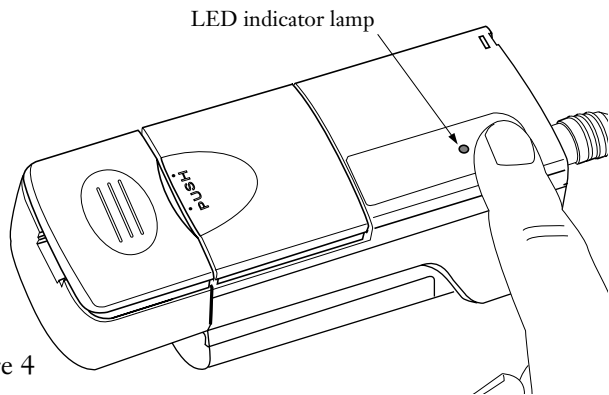

Figure 4
3.5 The automatic "Save" mode will cut the power consumption and lower the stripper's temperature between stripping operations, as indicated by the LED on the top of the stripper (see Figure 4) changing from green to red.
**3.7** Plug the DC barrel plug from the AC/DC power supply into the stripper (see Figure 4) and the power supply's blade-type plug into a 85-264 VAC 50-60m Hz power source.
**4.1** Turn on the stripper by pressing the green power switch. (Figure 4) The LED indicator lamp will remain red until the unit reaches its operating temperature in approximately 15 seconds and then turn green.